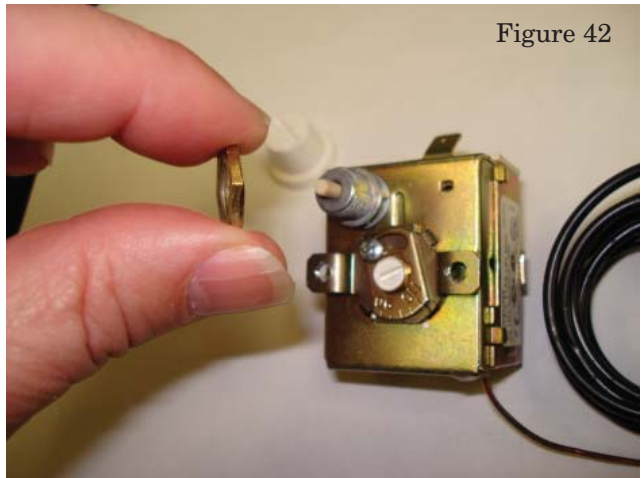

Figure 42
2. In a similar manner, remove the locking nut from the new manual reset water temperature limit. See Figure 42.